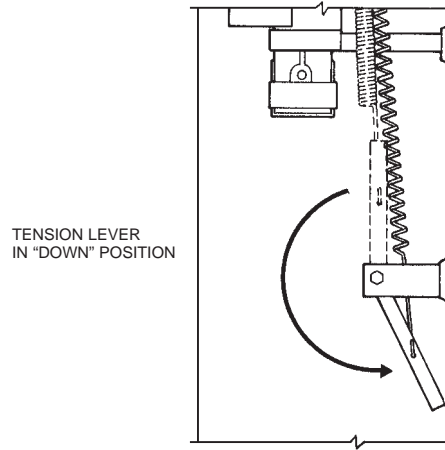

FIGURE 8-19
- 25. Lower tension lever to "DOWN" position. See Figure 8-19.